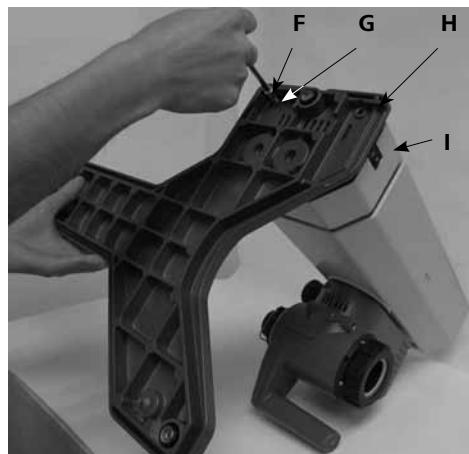

Fig. 7
1.) Mount the base to the lift. (Fig.7)
- Apply Cylindrical M6x25 (F) (4x) and Serrated washer M6 (G) (4x) to mount base (H) with Lift Unit (I) after you unpack the package. (Fig.7)